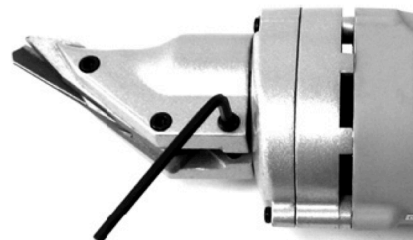

FIG 2
SWIVELING CUTTER HEAD (FIG 2)
2. Loosen the three hex head bolts using the hex wrench provided with this tool. See FIG 2.